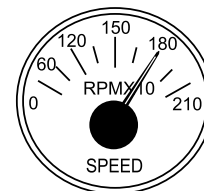

Figure 38. Engine Tachometer Gauge
14. The **tachometer gauge** (Figure 38) will indicate the speed of the engine when the generator is operating. Under normal operating conditions, this speed is approximately 1800 RPM's.